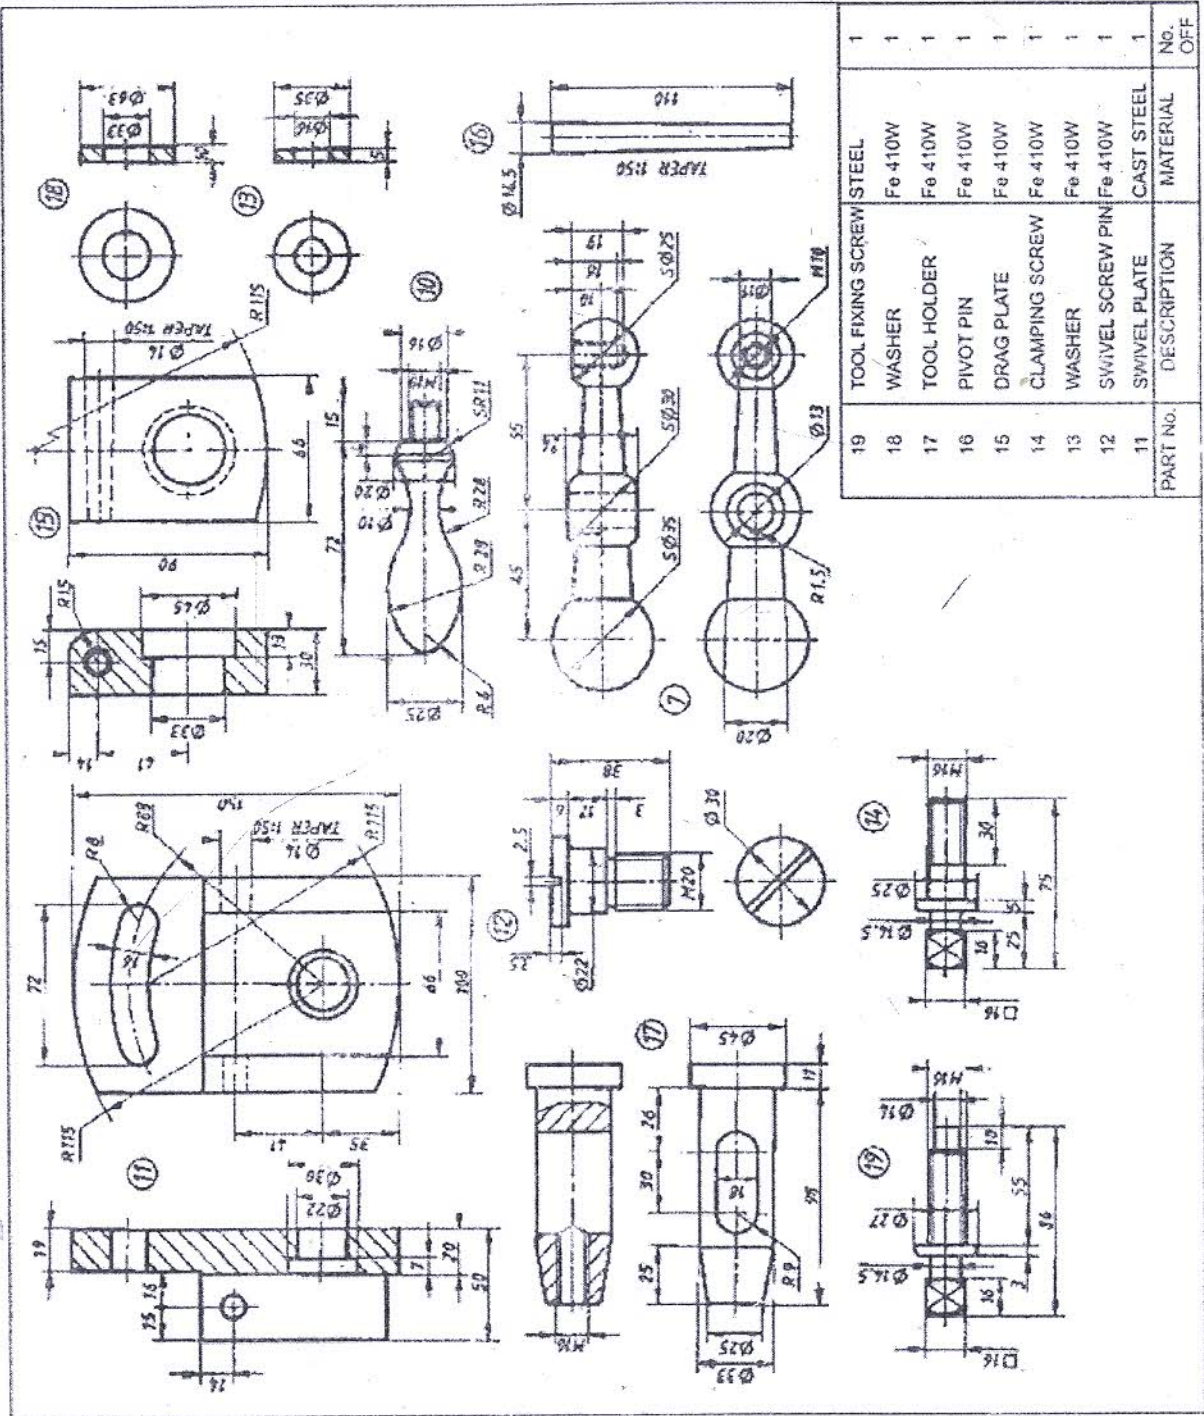

Figure 3
**Q.No.6** Figure 3 shows the part drawing of a tail stock. Assemble the tail stock and show the following views.